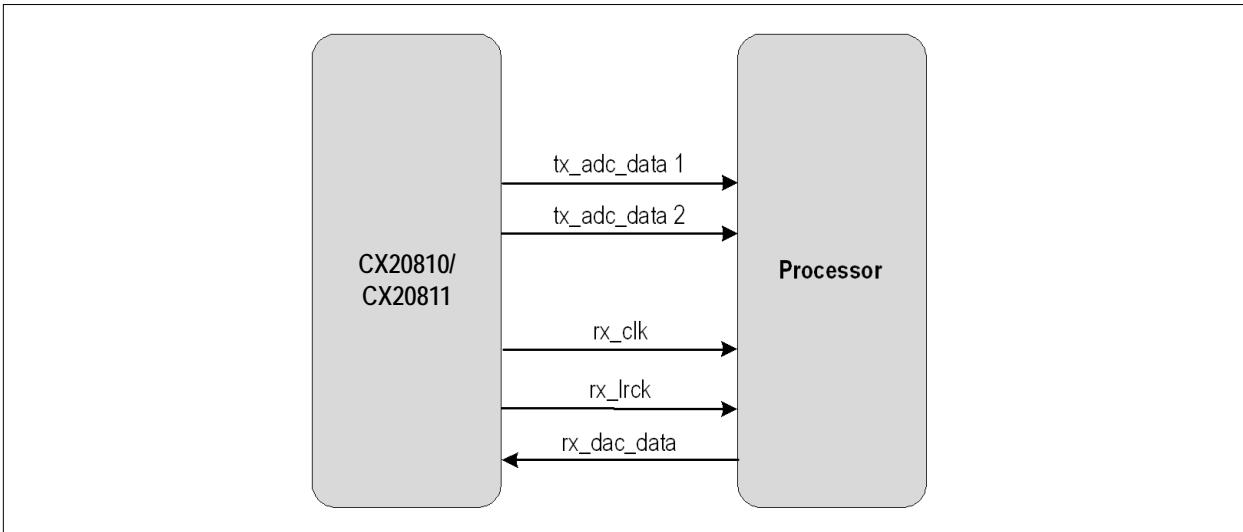

Figure 86: Five-Wire Master Mode with DAC BCLK, LRCK
- Figure 86 on page 142 provides the five-wire master mode with DAC BCLK/LRCLK